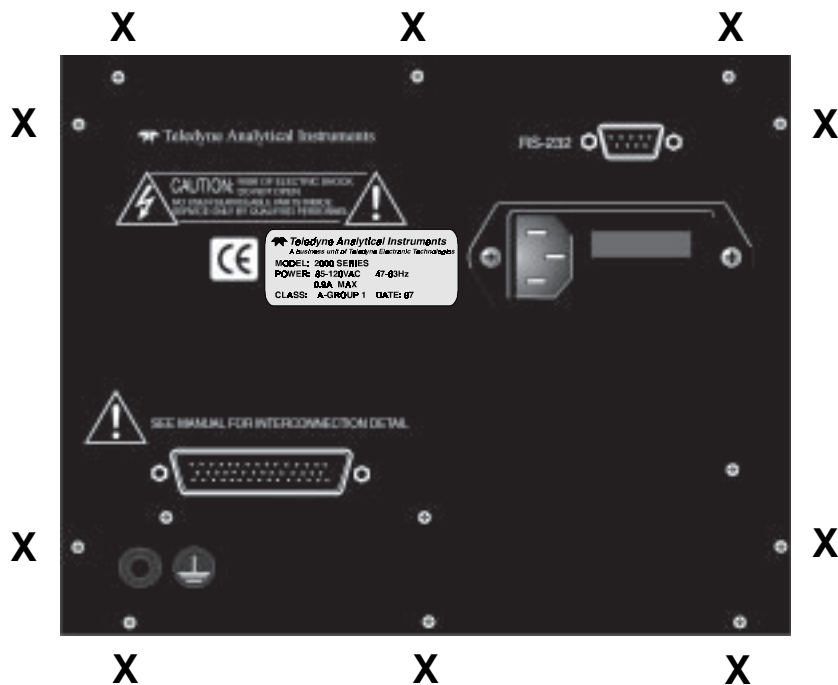
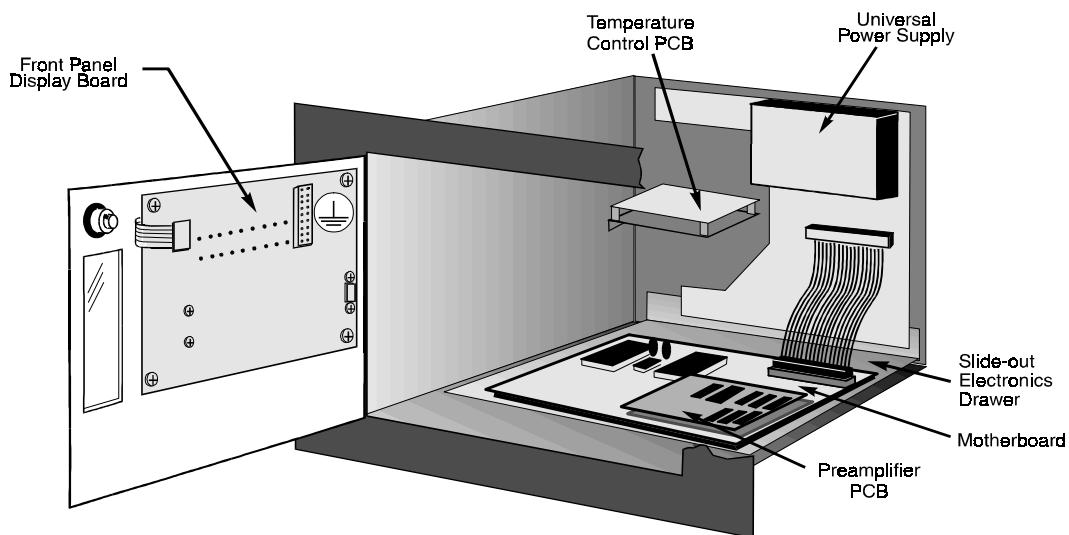

Figure 5-3: Rear Panel Retaining Screws
Figure 5-4: Locations of Printed Circuit Board Assemblies
The Cell Compartment and Front Panel PCBs are accessed by unlatching and swinging open the front panel, as described earlier. The balance of the PCBs are accessed by removing the rear panel retaining screws and sliding out the entire subassembly. See Figure 5-3, below. The major electronic components locations are shown in Figure 5-4 (with Cell Compartment removed for clarity).
- e. Leave the electrical connections connected at the Cell. Unlace the cabling, and unplug the grey Cell cable at the Preamplifier PCB connector, J3. (See Figure 5-4, and/or drawings at the rear of this manual.) The Preamplifier PCB can be more easily accessed by removing the analyzer's rear panel. (See Section 5.5.)
- (1) To remove the Heater, use a $1/16$ " Allen wrench to loosen the Thermistor set screw. Then, grasp BOTH Heater wires firmly, and pull the Heater slowly out of the Heater Block, breaking the silicone seal. Do not allow any foreign matter to enter the empty duct.
- (2) To remove the Thermistor, grasp BOTH Thermistor wires firmly, and pull the Thermistor slowly out of the Heater Block, breaking the silicone seal. Do not allow any foreign matter to enter the empty duct.
- e. Undo the cable lacing and separate the Heater/Thermistor wires. Then, disconnect the wires from TS1 on the Temperature Control Board. (See Figures 5-4 and 5-7.)